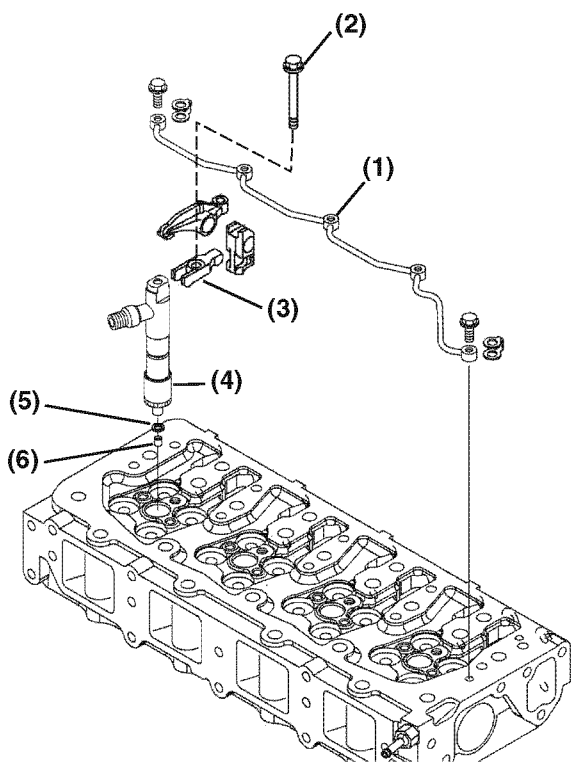

Figure 7-62
1. Reinsert a new nozzle seat (**Figure 7-62, (6)**) and nozzle protector (**Figure 7-62, (5)**) in the cylinder head for each injector.
3. Reinsert each fuel injector (**Figure 7-62, (4)**) into the cylinder head.
4. Reinstall the fuel injector retainers (**Figure 7-62, (3)**) and torque the retaining bolts (**Figure 7-62, (2)**) to specification.